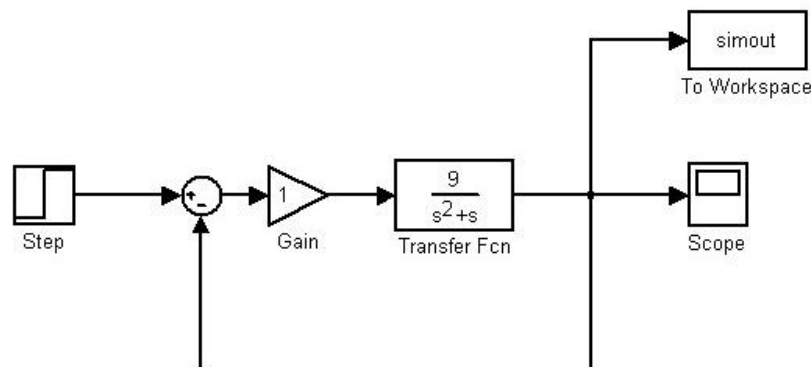

Figure 9 Block Diagram of P control
**Step 1:** Run the simulation when the controller is a unit P ( $P=1$ ) controller, as shown in Figure 9. Comment on the step response.
Tips: Command “step(sys)” for step response of system “sys”. Command “sys=feedback(C(s)\*G(s),1)” returns an LTI model sys for the negative feedback connected as Figure 9. For more information please check **help**.